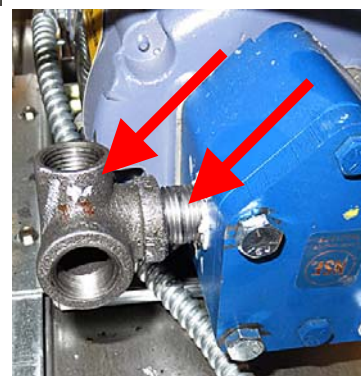

Figure 23
25. Apply Loctite and insert 1½" nipple (8130087) into the 90° elbow with outlet (8130331) and tighten and orient as shown (see Figure 23).